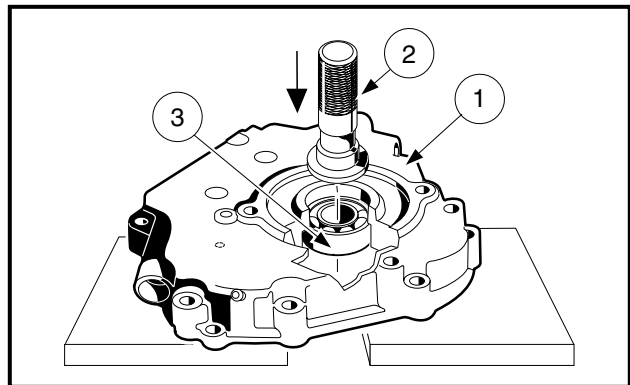

Figure 13-88 Ball Bearing Removal
2. Place the crankcase cover (1) on a bench with its outside up (gasket surface against bench) (**Figure 13-88, Page 13-41**).
3. Using a bearing driver (2) (part of Club Car Bearing Driver Kit, CCI P/N 1016416), drive out the ball bearing (3) as shown.